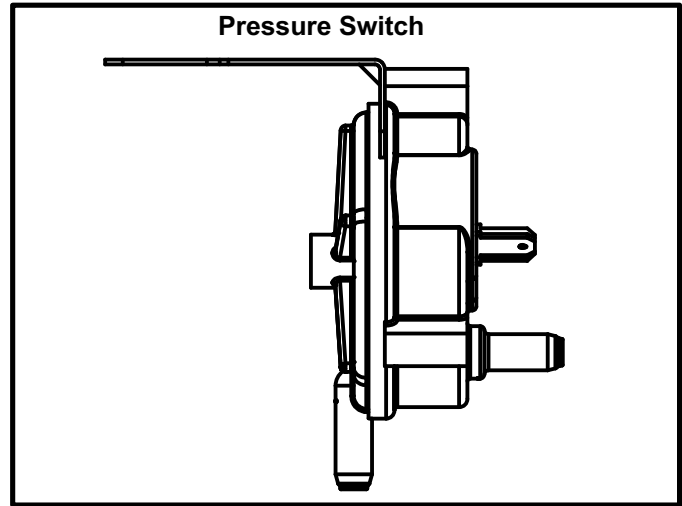

FIGURE 10
9. Combustion Air Pressure Switch (Figure 10)